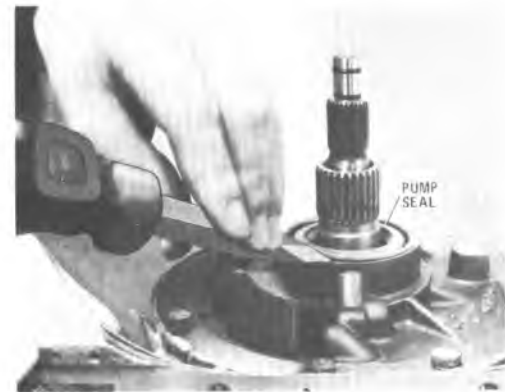

Figure 7A1-33 - Removing Pump Seal
c. Using J-24773 tool, remove pump assembly, pump to case gasket and discard gasket. (Figure 7A1-34).